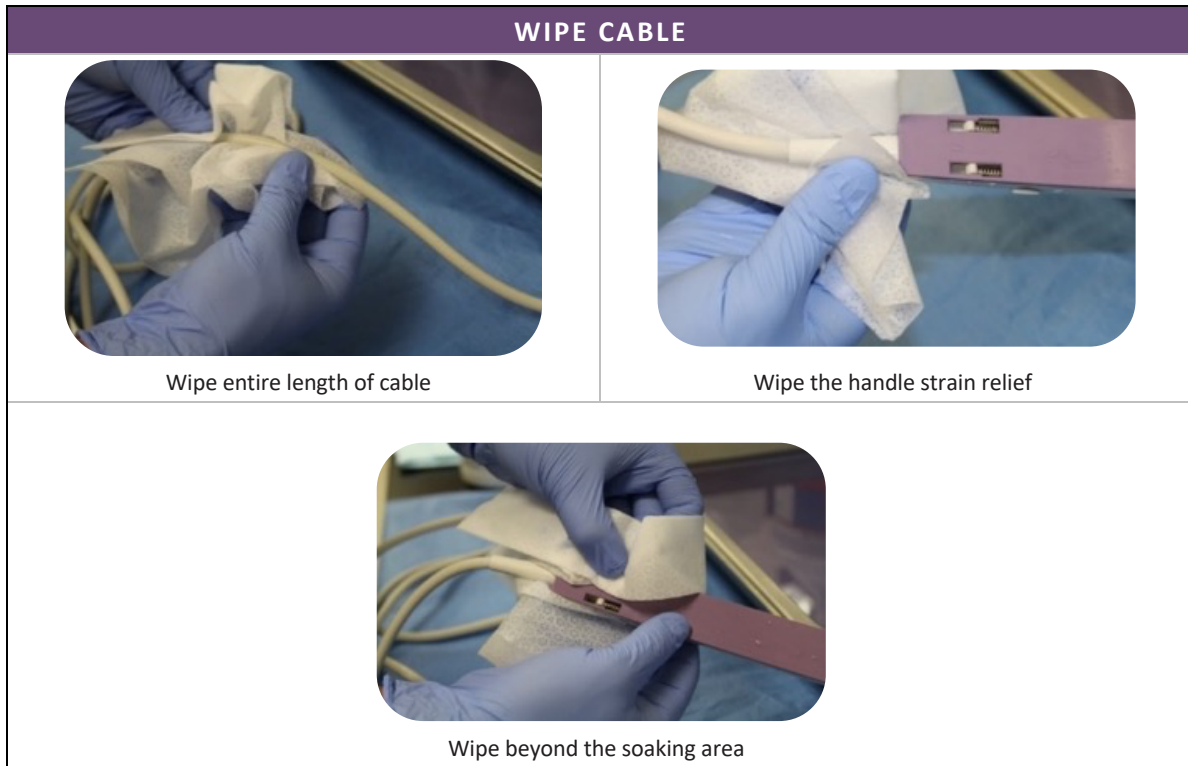

Figure 4-6 Wipe with medical grade low alcohol surface disinfectant wipe at least 2 times using a new wipe each time.
1. Wipe the entire length of the cable and handle strain relief using medical grade, low alcohol surface disinfectant wipes (see Figure 4-6). Follow the manufacturer's instructions.